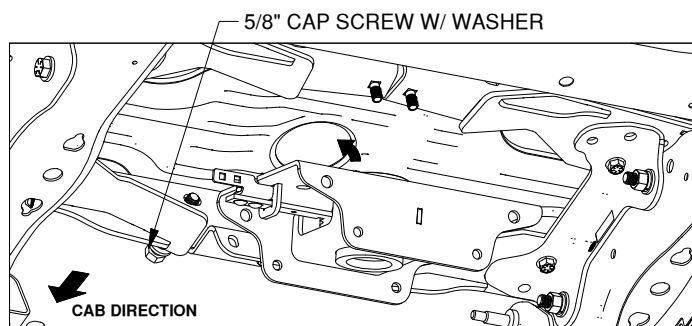

Figure D2: View looking up under the truck bed.
2. **Position center section.** Place a 5/8" x 4-1/2" cap screw with a 5/8" washer into the driver side cross member so the threaded side is flush with the outside of the cross member. With the latching mechanism on the driver side, raise the center section up under the 4" hole, see Figure D2. Align the hole in the front of the center section with the 5/8" cap screw and push the cap screw through the center section. Loosely secure the cap screw with a 5/8" lock washer and nut.